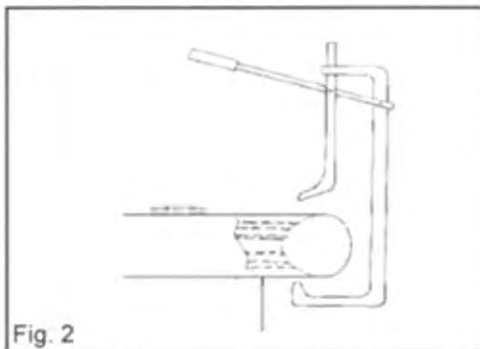

Fig. 2
3. Mount the wheel assembly into a tire bead breaker and break the bead. (Fig. 2)